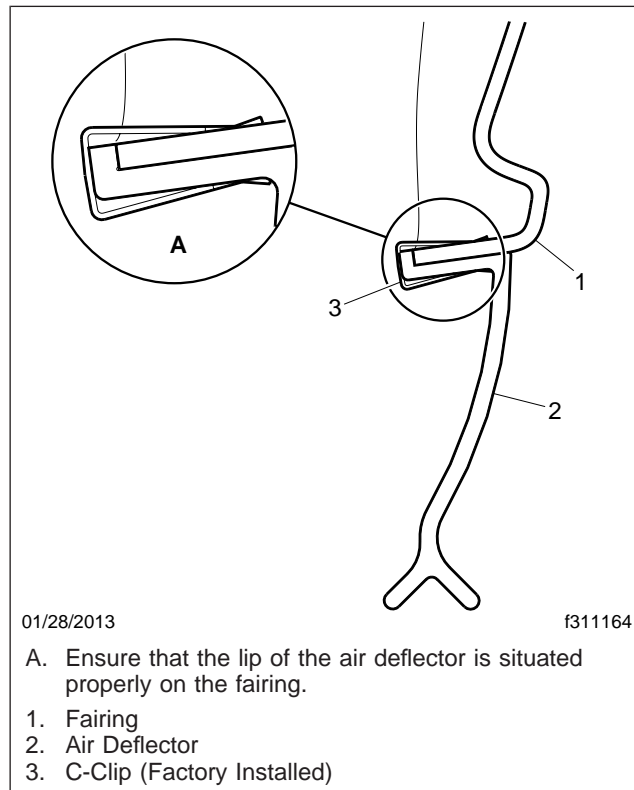

Fig. 2, Air Deflector and Fairing Installation
2. Ensure that the lip of the air deflector is situated properly on the fairing. See Fig. 2.